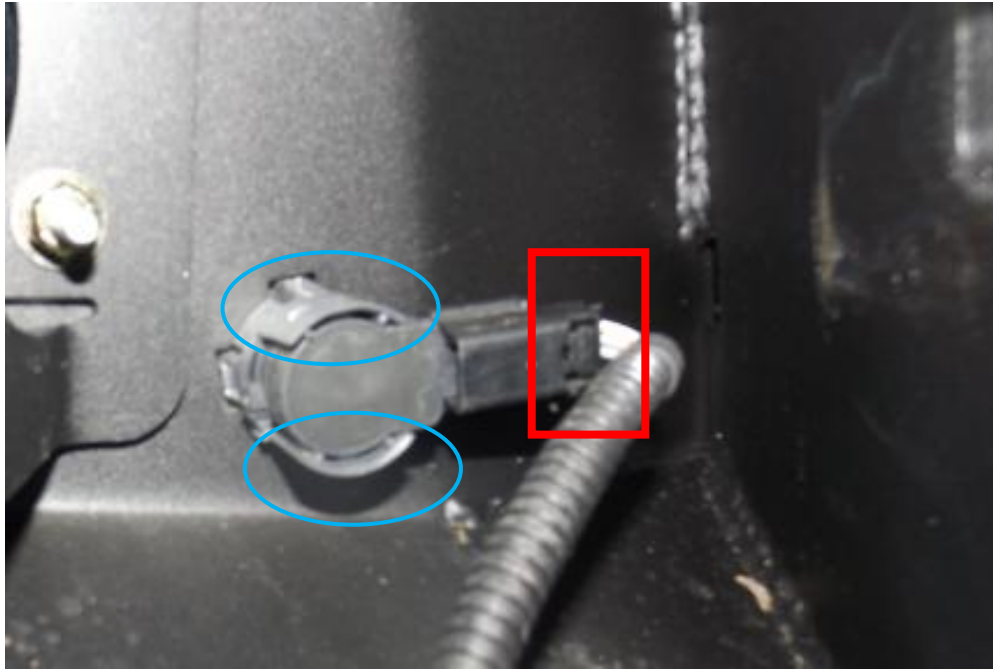

Figure 1
H. Remove OEM electrical harness from bumper. Sensors can be disconnected from housing by depressing the plastic clip indicated by the square (Ref. Figure 1).
J. CAREFULLY remove sensors from plastic housing by gently pulling the top and bottom tabs, indicated by circles (Ref. Figure 1), away as sensor is pulled out. Do not push on front of sensor as this will damage the membrane. Place sensors face up in a safe location.